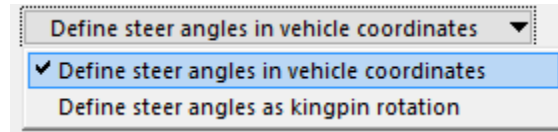

Figure 11. Steering angle drop down menu.
- ② Drop-down list for specifying the definition of the road wheel steer angle (Figure 11).